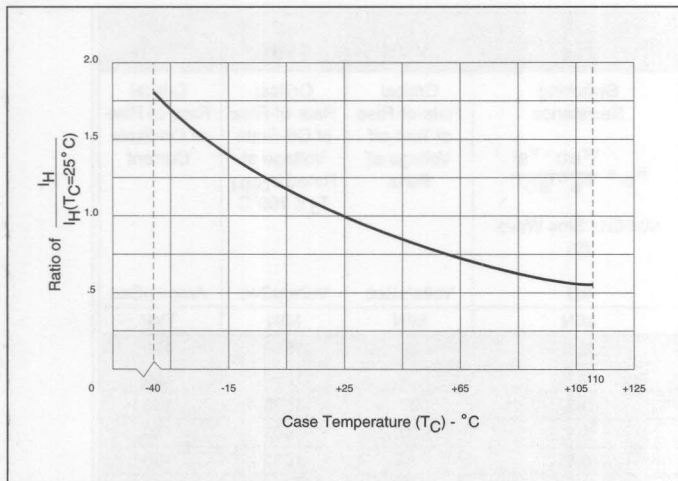

Figure 9.2 Normalized DC Holding Current vs Case/Lead Temperature
- See Figure 9.2 for I_H vs case temperature.